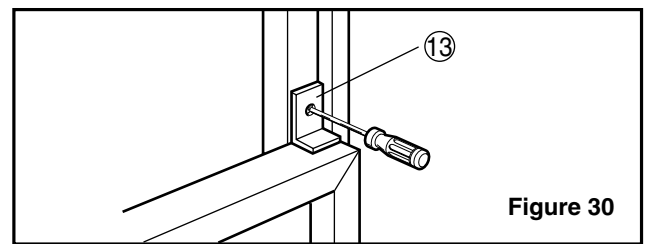

Figure 30
12. Attach the window locking bracket ⑬ with a type C screw. (See Fig. 30)